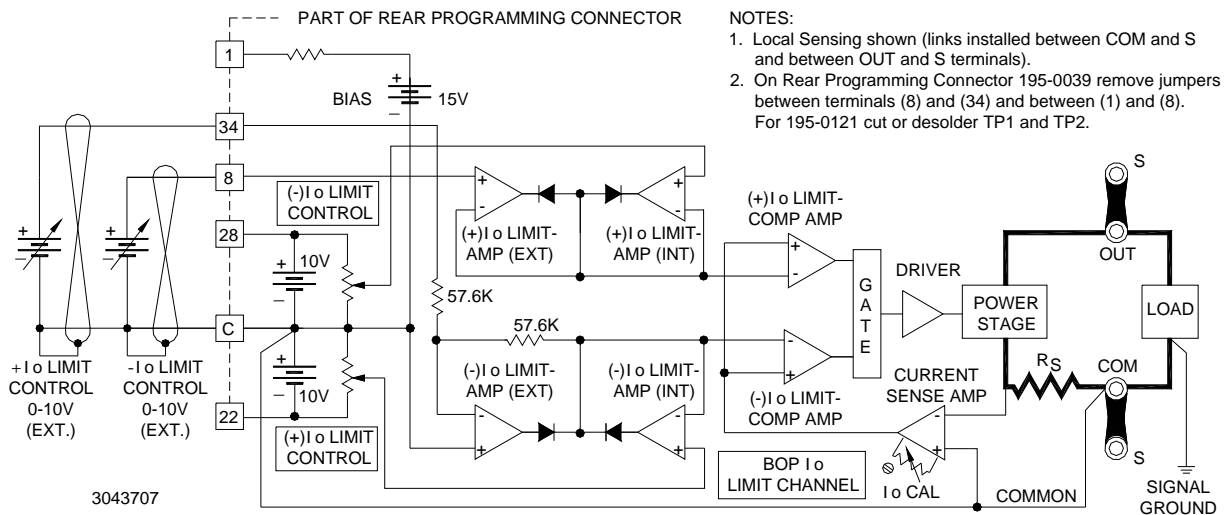

FIGURE 3-14. INDEPENDENT REMOTE CONTROL OF + I_o AND - I_o LIMITS
If individual control of the \pm current limits is desired, the jumper between (8) and (34) at the Rear Programming Connector must be removed and separate control sources must be connected: 0 to +10 volts to pin 8 for the $+ I_O$ limit, and 0 to +10 volts to pin 34 for the $- I_O$ limit, both with reference to common (see Figure 3-14).